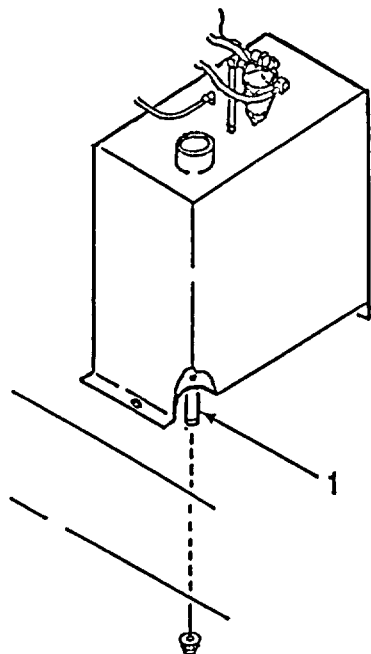

Figure 2-5. Fuel Tank Drain Line
- e. Fuel Tank. (Refer to Figure 2-5).